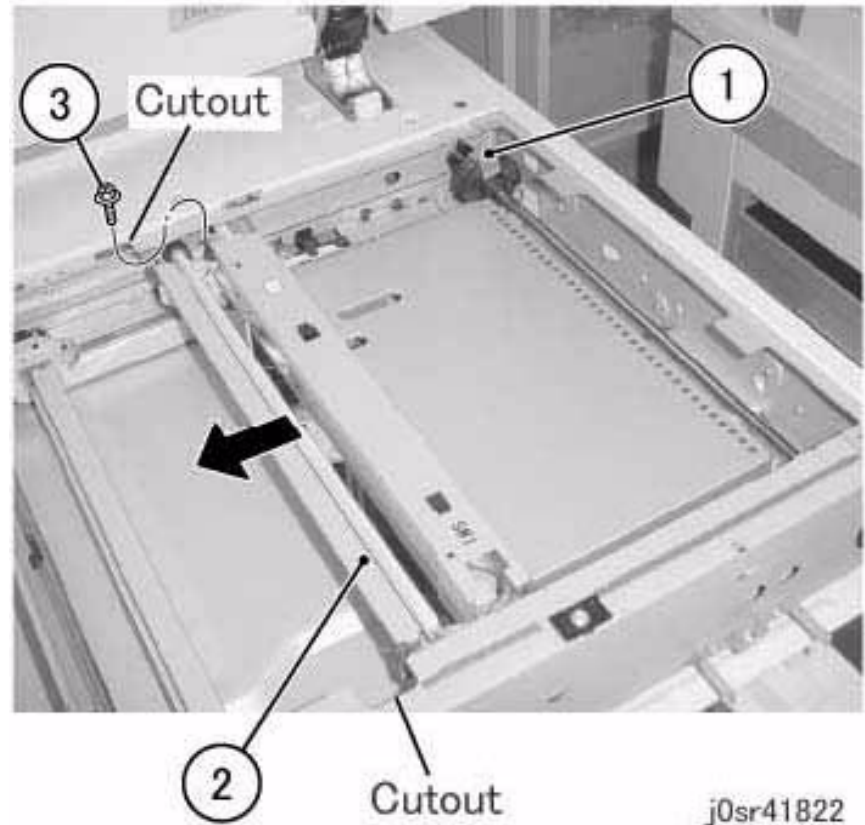

Figure 11 Installing the Carriage Cable at the front
5. Temporarily attach the Full Rate Carriage on the Carriage Cable. (Figure 11)